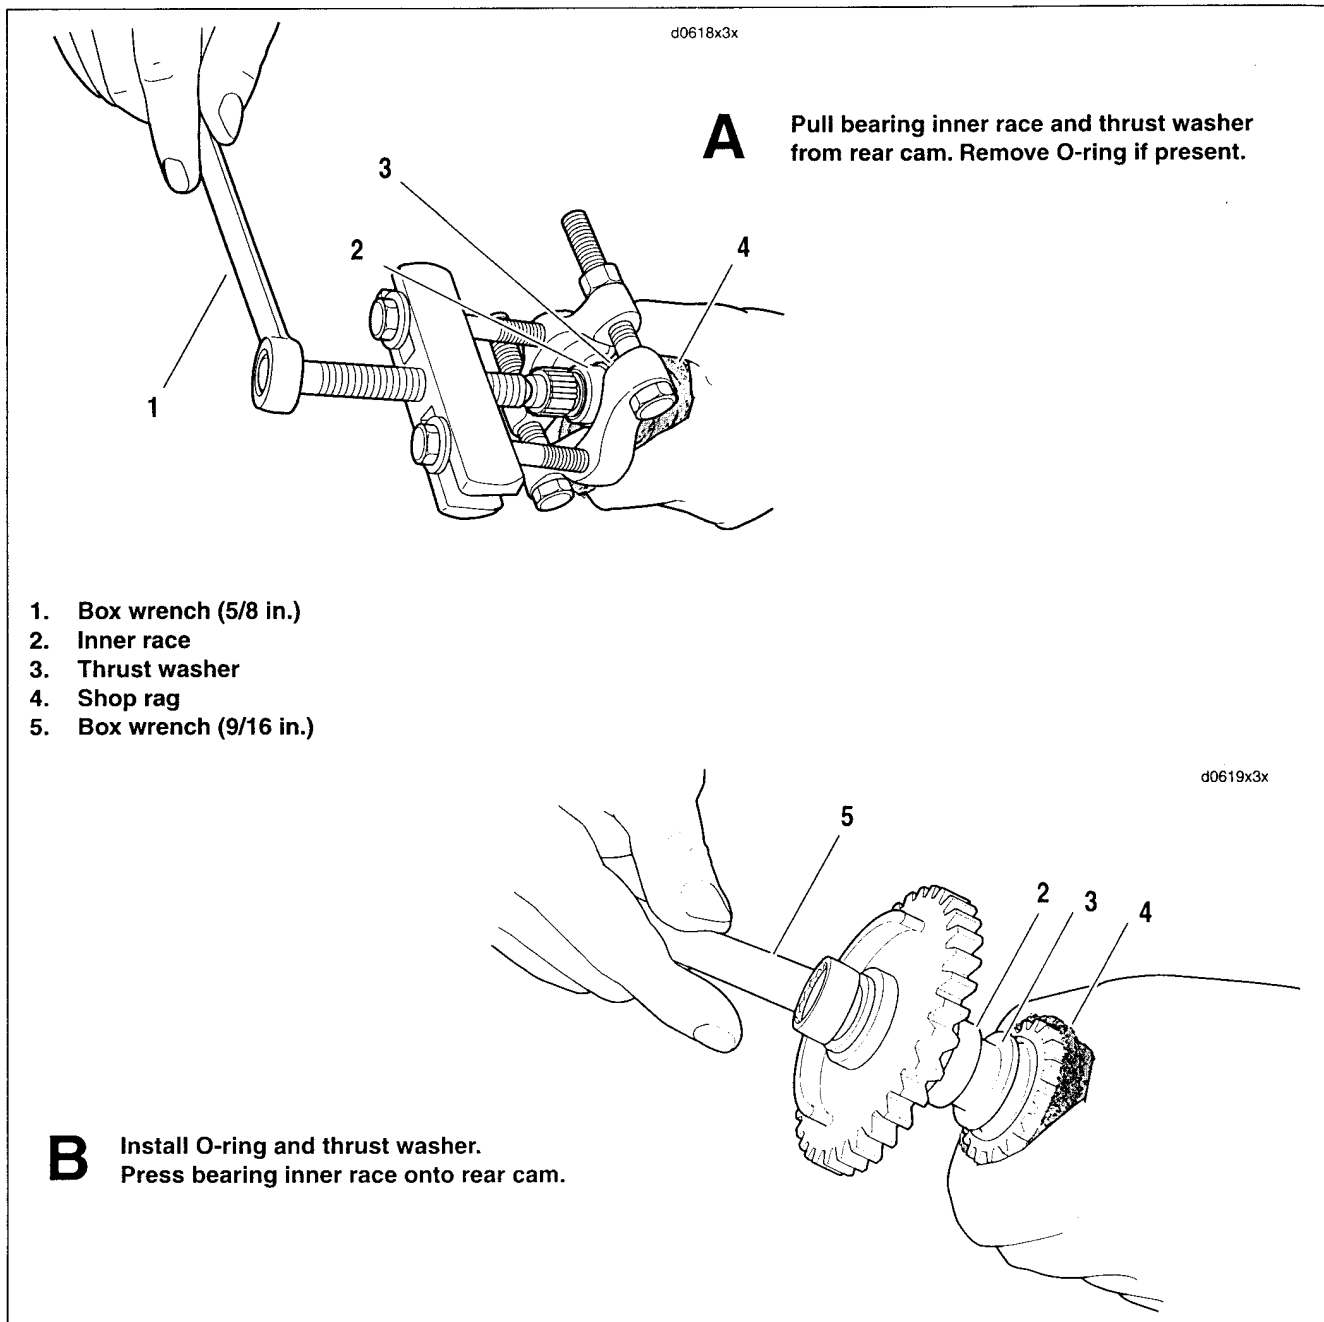

**Figure 3-133. Camshaft/Camshaft Bearing & Remover/installer (Part No. HD-43644)**
7. See Figure 3-133. Obtain the CAMSHAFT/CAMSHAFT BEARING RE-MOVER/INSTALLER (Part No. HD-43644).
8. See upper frame of Figure 3-133. Fit cups of camshaft driver (1) over ends of front and rear camshafts, so that contact is made with the bearing inner races. Centering driver under ram at a point midway between the camshafts, simultaneously press both camshafts (with attached bearings) from the cam support plate.
- a. Position WEDGE ATTACHMENT (4) (Part No. HD-95637-46A) on inboard side of front camshaft bearing (6) and turn hex nuts an equal number of turns to draw halves of wedge together.
- b. Obtain two 3/8-16 in. bolts (2) 3-1/2 inches long (with flat washers). Install flat washers on bolts. Obtain bridge (3), forcing screw (1) and hardened plug (7) from MAINSHAFT BEARING INNER RACE PULLER/INSTALLER (Part No. HD-34902-B).
- c. Slide one bolt into channel on each side of bridge (3) so that flat washer (2) is between bridge and bolt head. Thread bolts into wedge attachment an equal number of turns.
- d. Sparingly apply graphite lubricant to threads of forcing screw (1) to prolong service life and ensure smooth operation. Start forcing screw (1) into center hole of bridge (3).